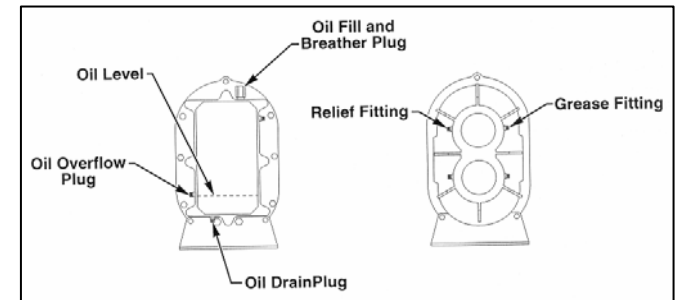

Fig. 56. Blower oil level check & fill.
- 8. Check the blower oil level at the oil overflow plug. The plug is located on the left side closest to the drain plug. Fill through the “breather plug” at the top, until the oil runs out the oil overflow hole at the side of the blower and then reinstall the plug. You must use M-S type SAE 40 weight heavy-duty type from 30 degrees Fahrenheit to 90 degrees Fahrenheit ambient temperature. DO NOT USE MULTIPLE VISCOSITY OILS, (Fig. 56).